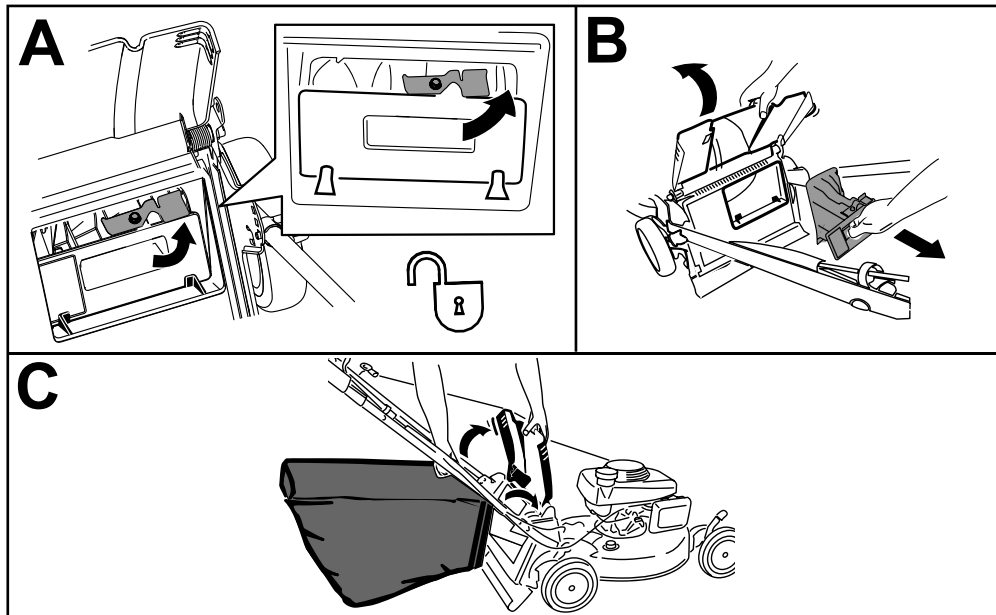

Figure 23
Note: To unlock the rear plug, rotate the lever on the plug to the right (Figure 23).
1. Raise and hold up the rear deflector and unlock the rear plug (A of Figure 23).
2. Pull out the rear plug (B of Figure 23).
3. Hang the upper front edge of the bag from the grass-bag pins on the notches of the handle brackets (C of Figure 23).